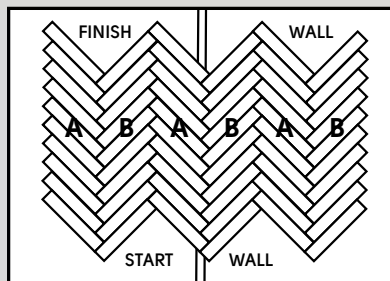

Fig. 8
9. Continue installing 'B' planks. Repeat on the other side of the row of original 'B' planks with the 'A' planks. Complete the installation, using the same method while keeping the expansion spacers in place and the pattern square (Fig 8).